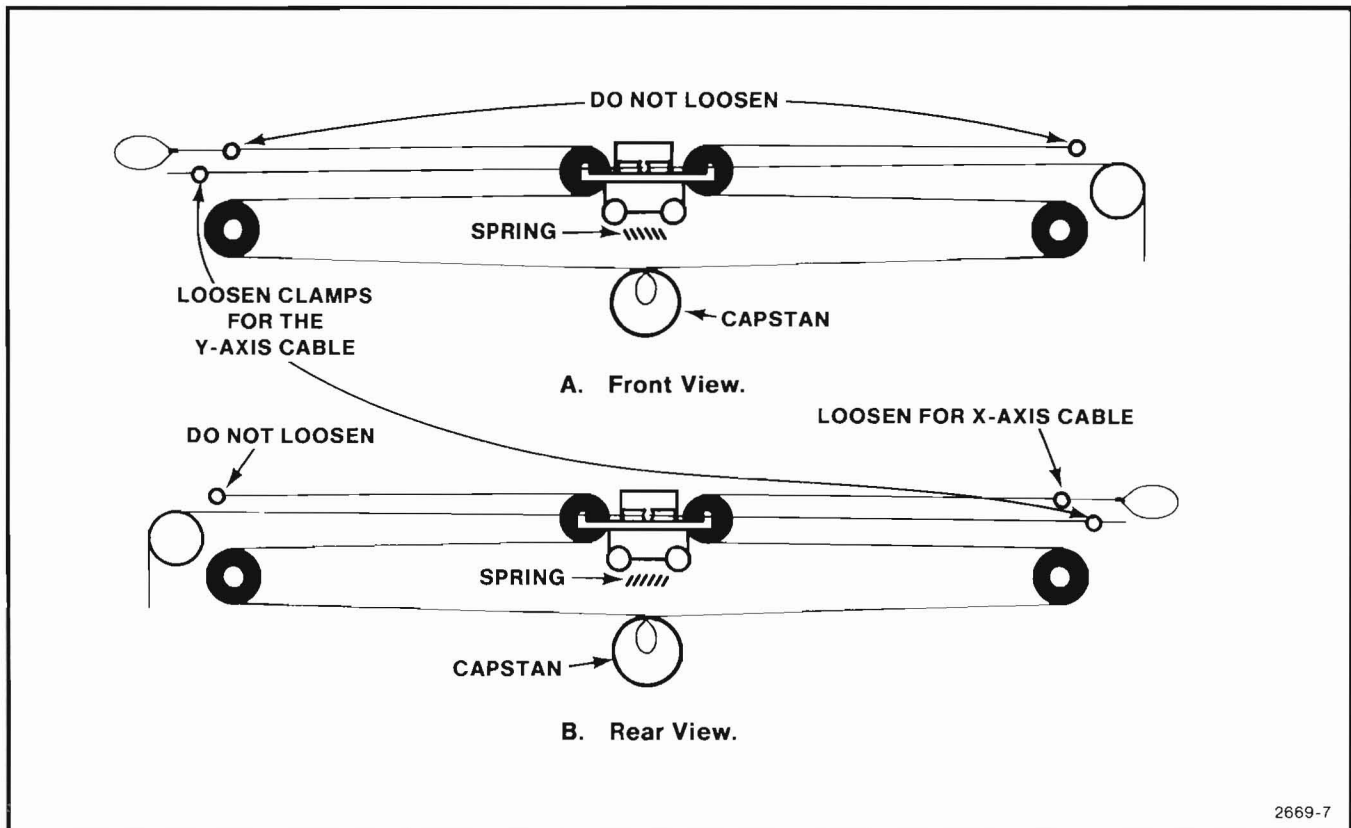

Figure 3-12. Cable Clamp Locations.
5. Next, loosen the clamps for the rear X-axis cable and the Y-axis cable. The clamps holding the appropriate cables are shown in Figure 3-12.